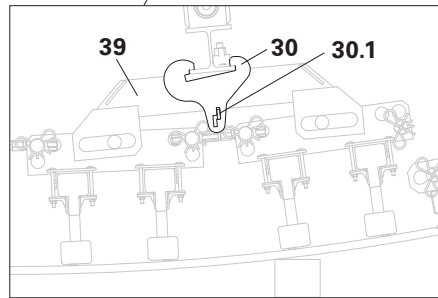

Fig. B2.02a
3. Slide Waler Connectors (30) onto the profiles of the Brace Frames, insert into the steel waler/Distribution Waler, and secure with Wedge K (30.1). (Fig. B2.02a + B2.03b)